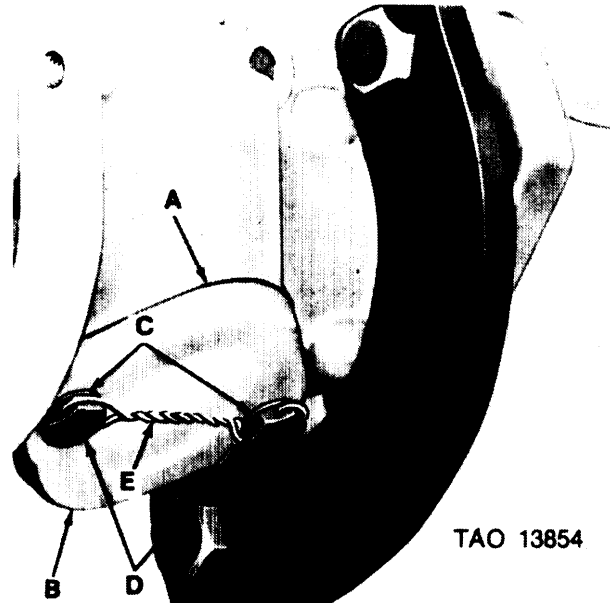

Figure 3-117. Installing quill shaft pad cover.
e. Refer to figure 3-117. Coat both sides of quill shaft pad gasket with a thin coat of sealer, MIL-S-45180 or equivalent. Install quill shaft pad gasket (A) and quill shaft pad cover (B). Secure cover with two copper gaskets (C) and machine screws (D). Torque tighten machine screws to 50-60 inch-pounds. Screws will be lock wired at governor installation (para 3-43).